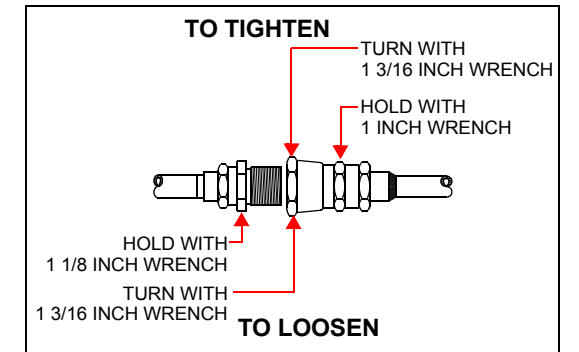

Figure 3: Helium Flex Line Connections
2. Connect the Helium return line (see *Figure 3*).
3. Connect the Helium supply line (see *Figure 3*).